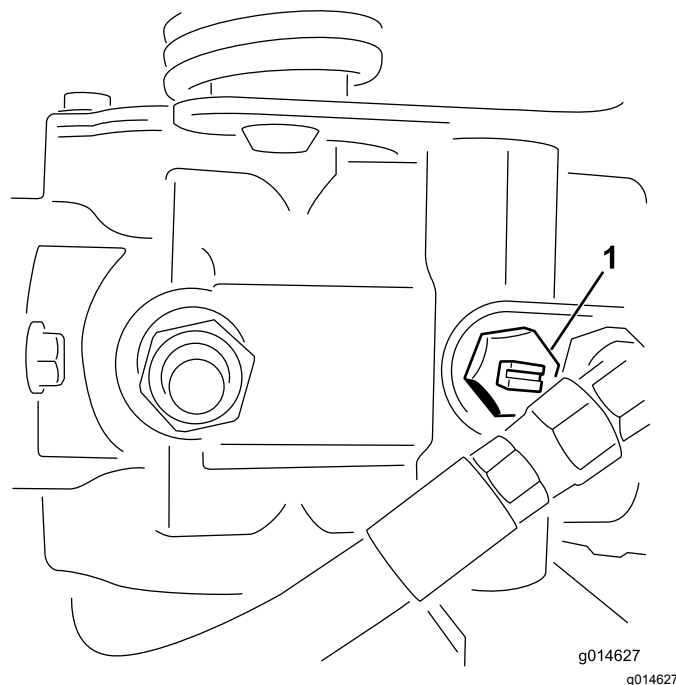

Figure 38
1. Locate the bypass valve on the pump and rotate it so that the slot is vertical (Figure 38).
2. Before starting the engine, close the bypass valve by rotating it so that the slot is horizontal (Figure 38). Do not start the engine when the valve is open.